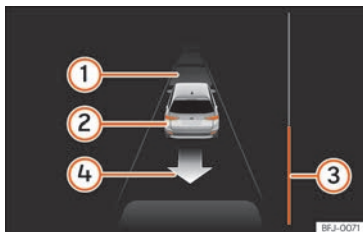

Fig. 285 On the instrument panel display: driving off from perpendicular parking.
Key to the **Fig. 285**:
The progress bar » Fig. 285 ③ indicates the distance to cover » page 309.